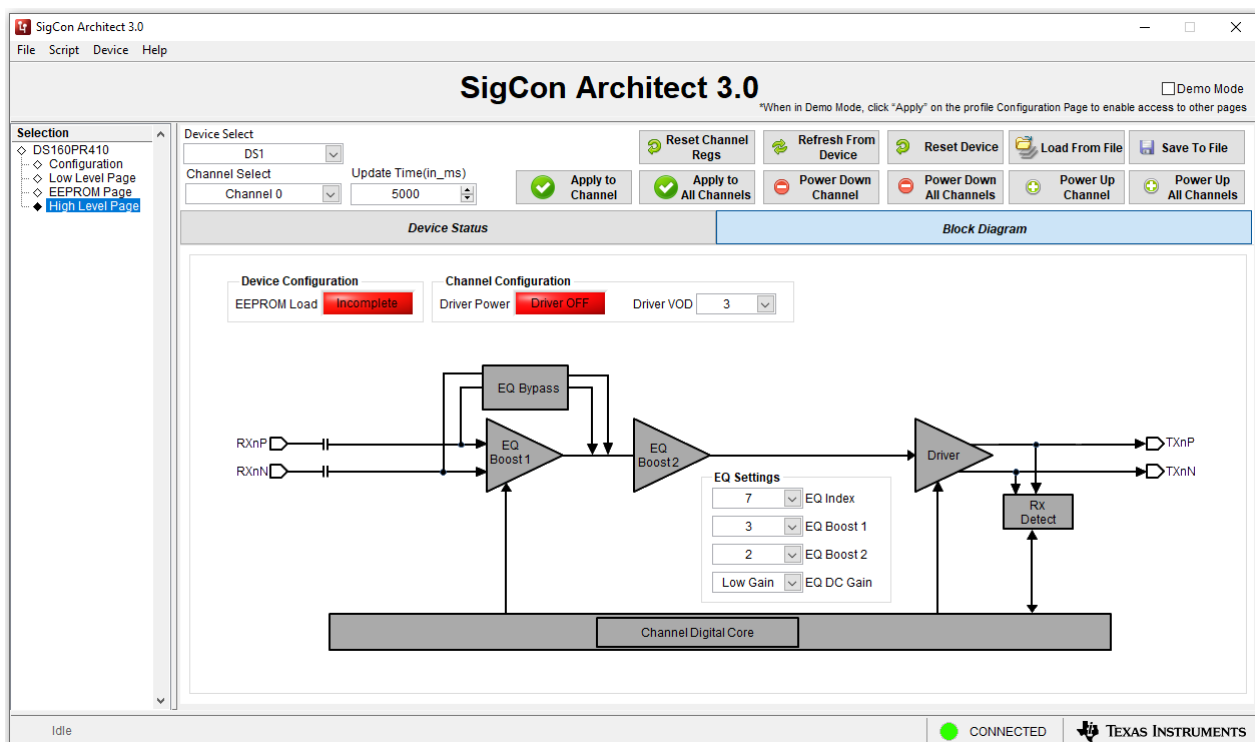

Figure 1-1. SigCon Architect DS160PR410 High Level Page
1. Check that the shunts are at the following default positions as shown in Figure 1-1.
9. In the DS160PR410 High Level Page, select Block Diagram as shown in Figure 1-1.